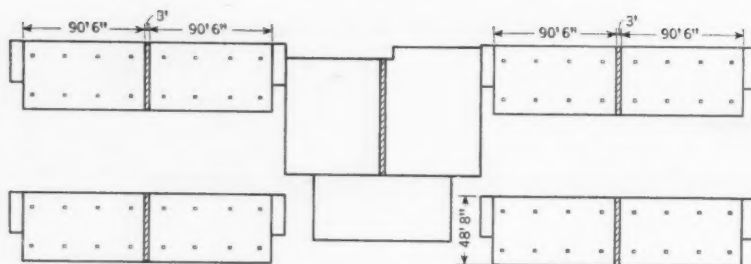

FIG. 1. Women's dormitory housing 600 students consists of four three-story wings and a one-story administration building in center.
**S**teadily increasing enrollment recently made it necessary to enlarge the dormitory facilities at Arizona State College, at Tempe, Ariz., a city which practically touches Phoenix. The new women's dormitory housing 600 students consists of four three-story wings and a one-story administration section. It was built of concrete flat-plate floor and roof construction utilizing the lift-slab technique. As shown in Fig. 1, the administration building forms the core with two wings each side of it.